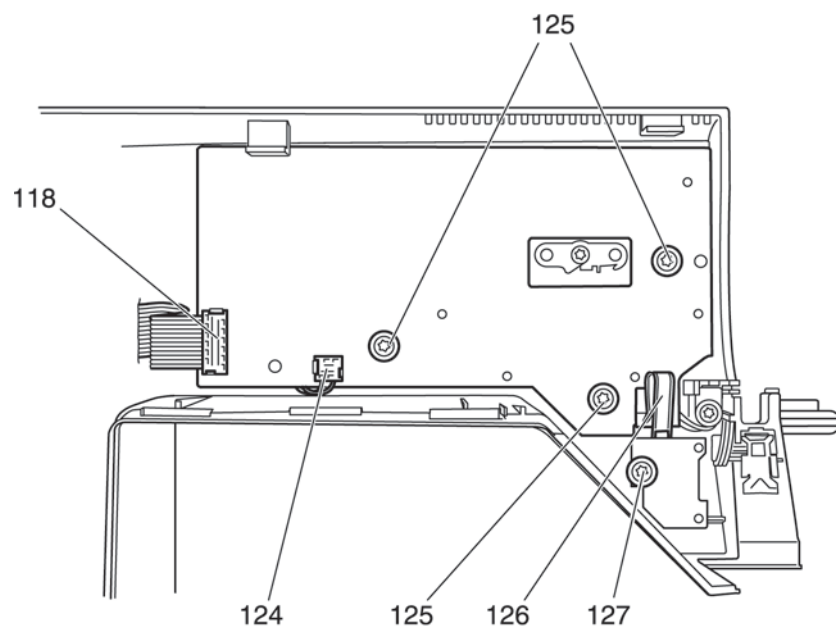

Fig. 34
- Disconnect plug 118 of the connection cable from the circuit board of the control panel (fig. 34).